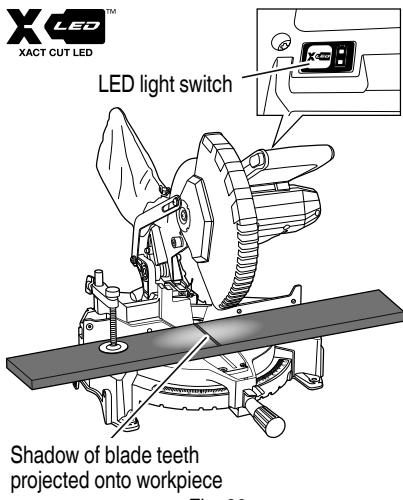

Fig. 20
7. LED lighting system (Fig. 20) [XACT CUT LED™]